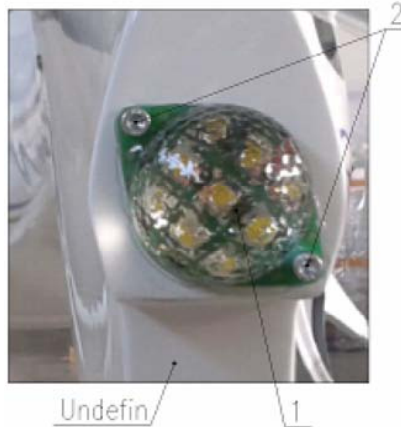

Fig. 33-40-8
1	Using hex-head screwdriver 3mm unscrew bolts item 2 that hold the rear position light (Fig. 33-40-8).
4	Install position light in correct position. Using hex-head screwdriver 3mm screw bolts item 2 that hold the position light (Fig. 33-40-8).